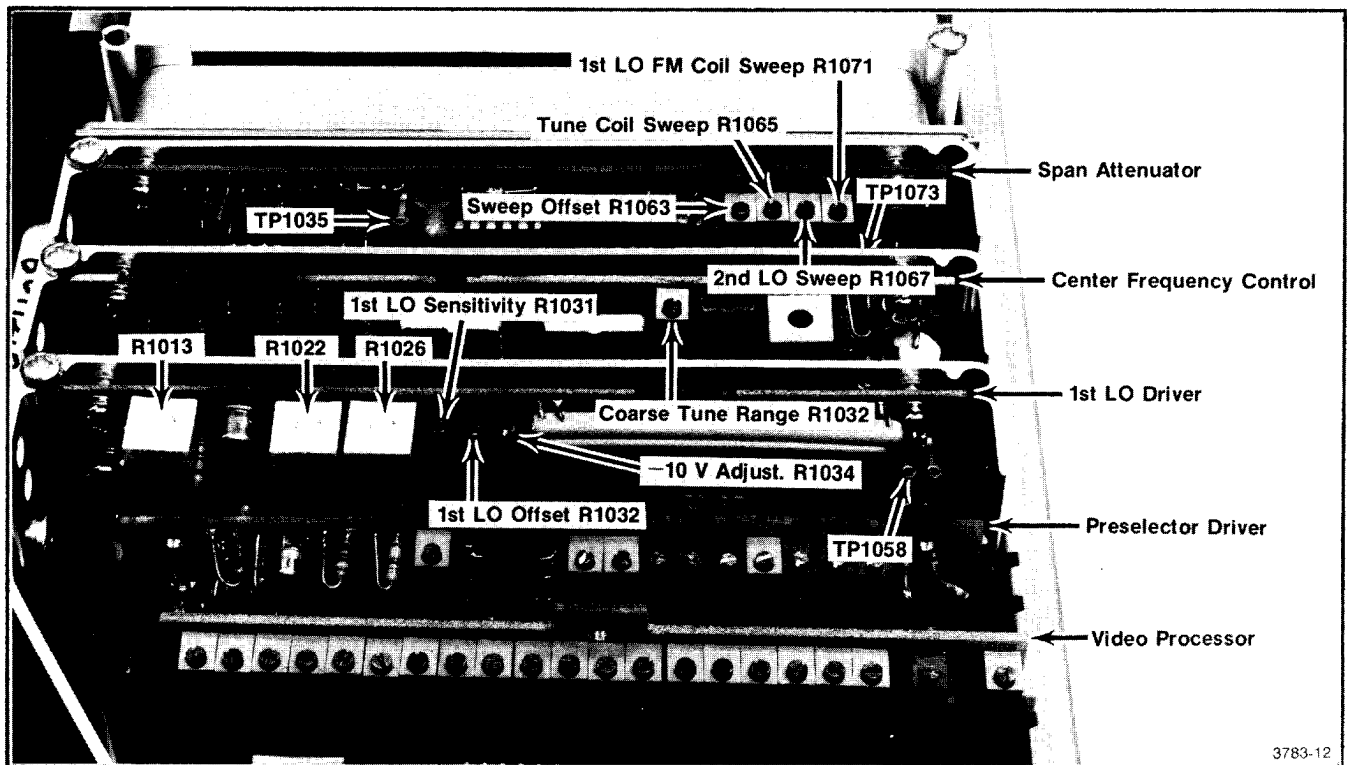

Fig. 3-31. 1st LO balance and span adjustments and test points.
2) Connect the digital voltmeter (DVM), set to the 20 V range, between TP1058 of the 1st LO Driver and chassis ground (Fig. 3-31), so the voltage at the test point can be monitored. Adjust FREQUENCY for a readout of 0 MHz as the FREQ SPAN/DIV is reduced to 5 MHz. Note the DVM reading.
5) If the differential between 0 MHz and 4.278 GHz is not 20.00 V, adjust Coarse Tuning Range R1032 on the Center Frequency Control board (Fig. 3-31) until the voltage difference between the two frequency points is 20.00 V.
- 1) Connect a shorting strap from TP1035, on the Span Attenuator board, to chassis ground (Fig. 3-31). Monitor the voltage on TP1073 (Fig. 3-31) with the DVM.
- 4) Adjust the 1st LO Offset R1032 (Fig. 3-31) on the 1st LO Driver board to center the 1.8 GHz marker.
- 6) Adjust 1st LO Sensitivity R1031 (Fig. 3-31) on the 1st LO Driver board to center the 100 MHz marker.
- a) If the readout is equal to or greater than 4.216 GHz (5.522 GHz Option 01) adjust the 1st LO Offset R1032, on the 1st LO Driver board, (Fig. 3-31) to move the marker 4 MHz (5.5 MHz, Option 01) lower.
- 11) Tune the FREQUENCY readout to 4.207 GHz (5.510 GHz, Option 01) and adjust the 1st LO Sensitivity R1031, on the 1st LO Driver board, (Fig. 3-31) so the marker is at center screen.
- d) If the marker is greater than 8.6 MHz (11.0 MHz, Option 01) perform steps d(10) and d(11)
- 2) Adjust Tune Coil Swp R1065 (Fig. 3-31) on the Span Attenuator board so the 100 MHz harmonics of the Calibrator are spaced at one division intervals over the center eight divisions of the graticule. Adjust the FREQUENCY as necessary to align the markers.
- 5) Adjust the 1st LO FM Coil Swp R1071 (Fig. 3-31) for 1 marker/division over the center eight divisions of the display.
- 4) Adjust the 2nd LO Swp, R1067, (Fig. 3-31) on the Span Attenuator circuit board, so the two comb lines near the graticule edges are 8 divisions (800 kHz) apart.